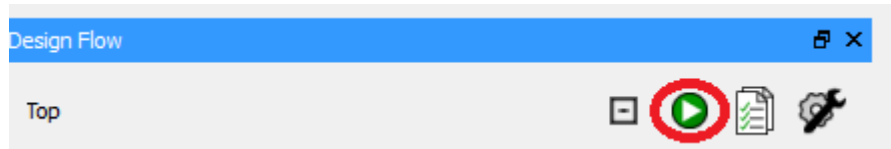

Figure 38 Generate Icon
1. Click the **Generate Bitstream** icon in the **Data Flow** window (as shown in Figure 38) or select **Design > Generate Fabric Programming Data** to synthesize the design, run compile and layout using the I/O constraints that are created and generate the programming file.